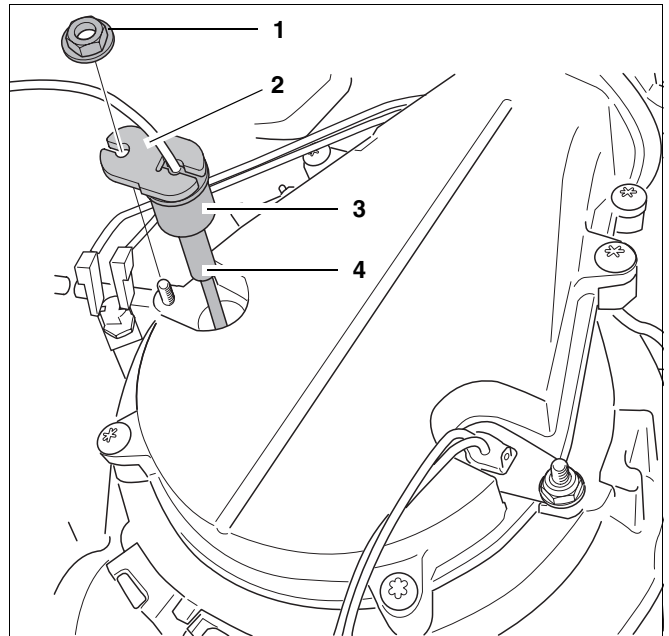

fig. 98 Remove ionisation electrode
- Remove the ionisation electrode (→ fig. 98, items 1, 2, 3 and 4).
- Place a new seal with latch and nut (→ fig. 98, items 2, 3 and 4).